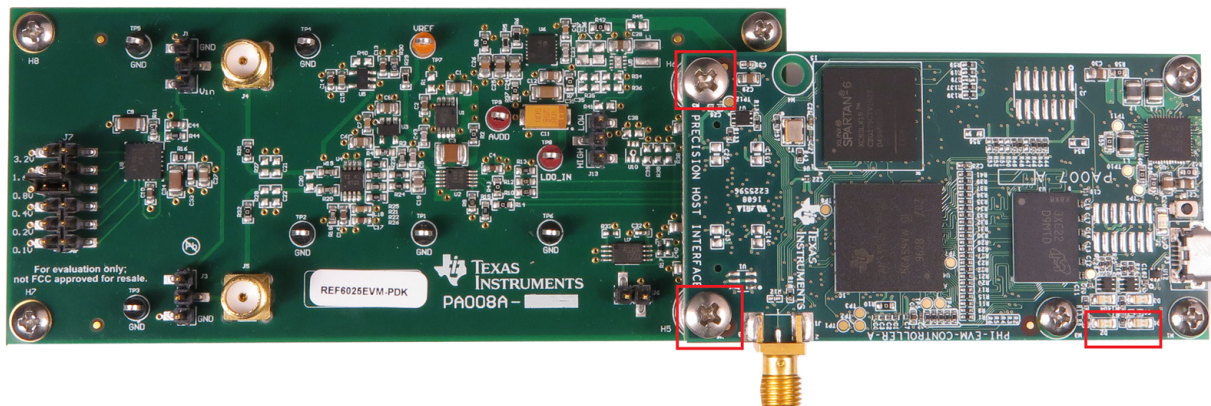

Figure 7. EVM Hardware Setup and LED Indicators
1. Connect the ADS8881EVMV2 to the PHI. Install the two screws as shown in Figure 7.
- LEDs D1 and D2 on the PHI starts blinking, which indicates that the PHI is booted up and is attempting to communicate with the PC. The resulting LED indicators are shown in Figure 7.